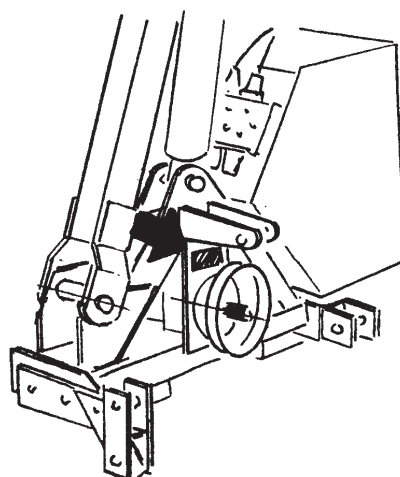

Fig. 12
- Check that the number of revolutions and the rotational direction of the power take off correspond to those required by the flail-hedger mower (FIG. 12).